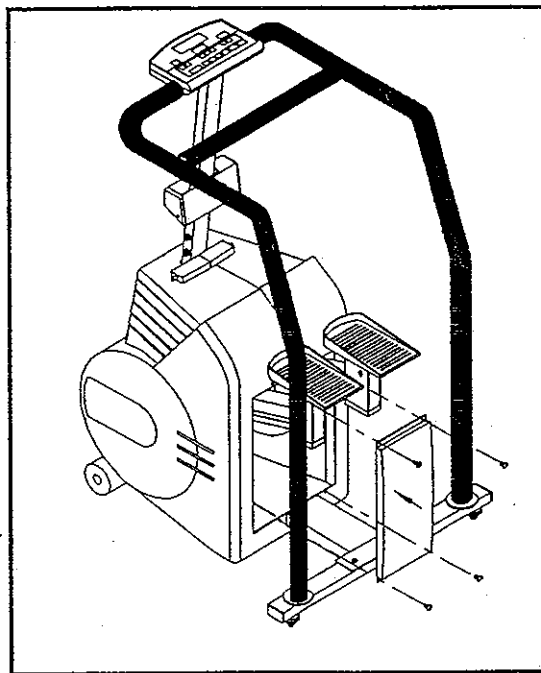

Fig. 21
7. Secure the front cover with screws (see Fig. 21).